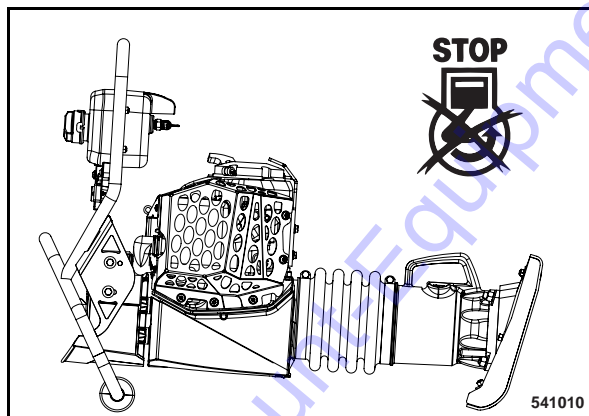

Fig. 26
- Lay down the tamper (Fig. 26) to transport it on the rollers.